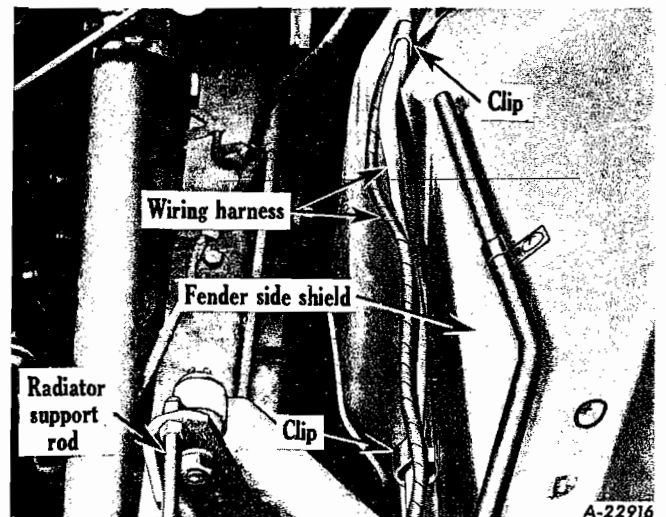

Fig. 61
- Pull head lamp wiring harness towards the rear through fender splash panel and remove all harnesses from the three clips located on fender side shield (Fig. 61).